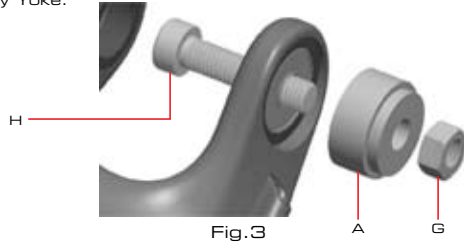

Fig.3
1. To remove the Main Pivot Bearings orient the tool as seen in Fig. 3. Use an Allen wrench and open wrench to draw the bearings out of the Chain Stay Yoke.